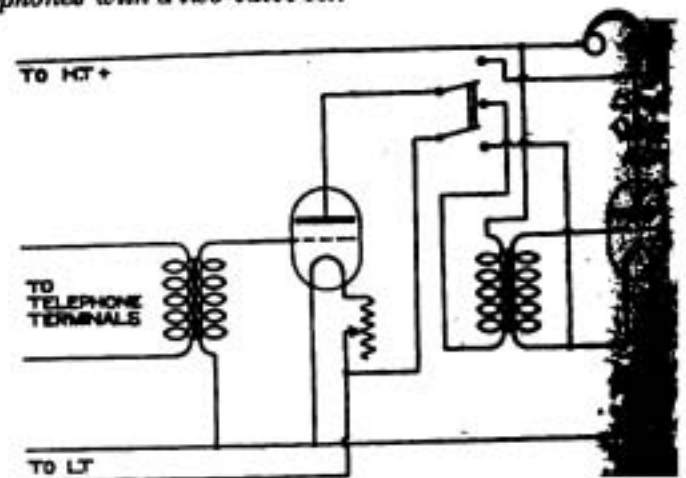

Fig. 12.
(1) See diagram (Fig. 12) (2) Information is rather limited to reply with certainty. It might be FL, but we should hardly expect this station to be so strong at such a distance.